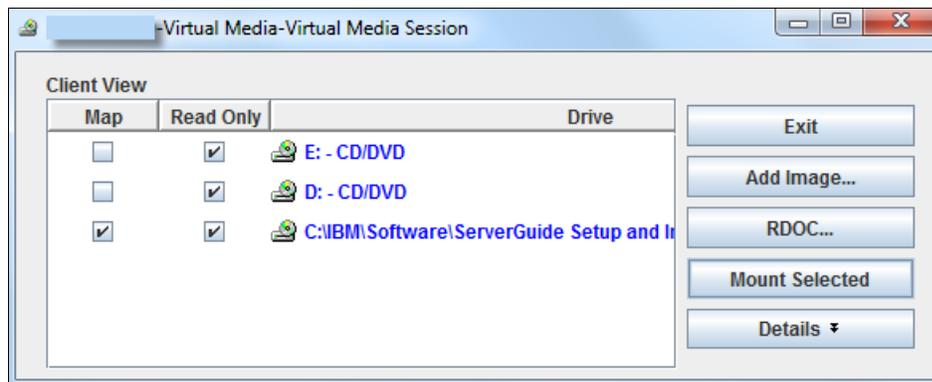

Figure 2-21 Overview of the selected drive
- Select the check box next to the drive that you want to map and click **Mount Selected**, as shown in Figure 2-21.